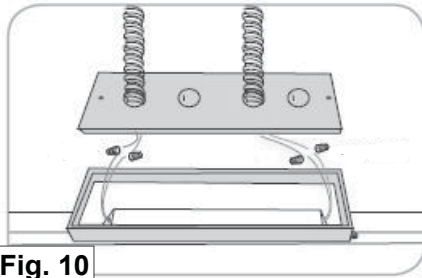

Fig. 10
10. Complete electrical connections (Fig. 10). See **Wiring Connection** section.